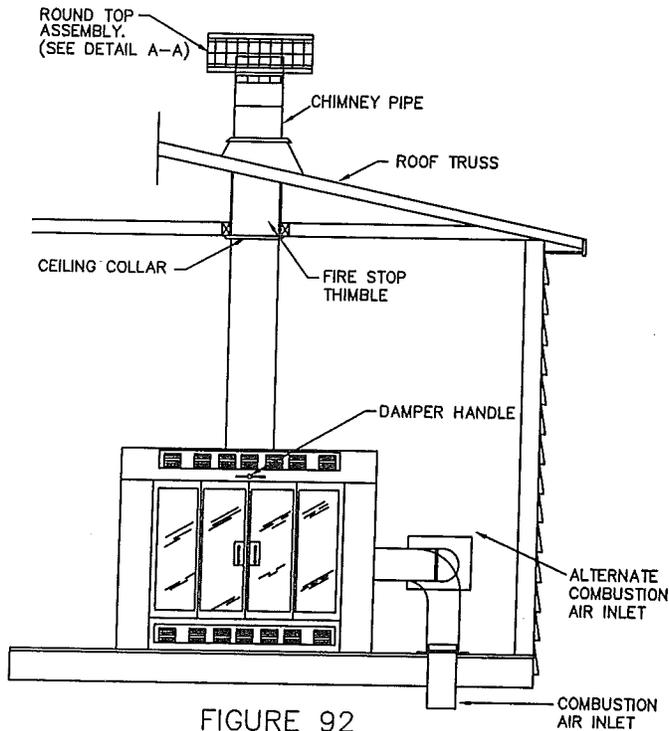

FIGURE 92
1. If your home is equipped with a built-in fireplace, it will be necessary to complete the installation of the round top assembly, rain cap, spark arrestor, and chimney pipe. See Figure 92.